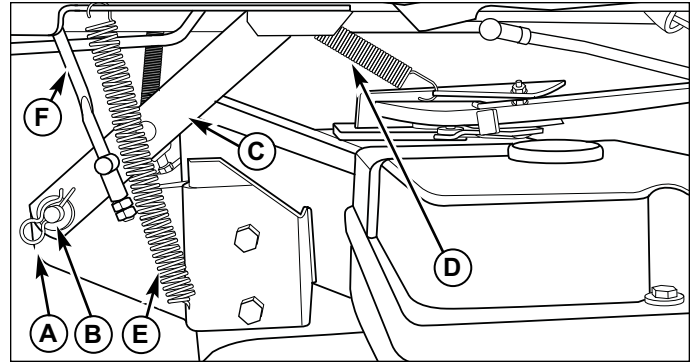
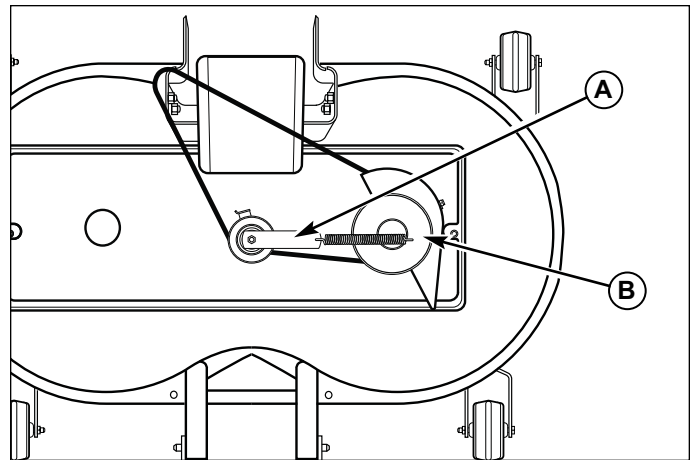
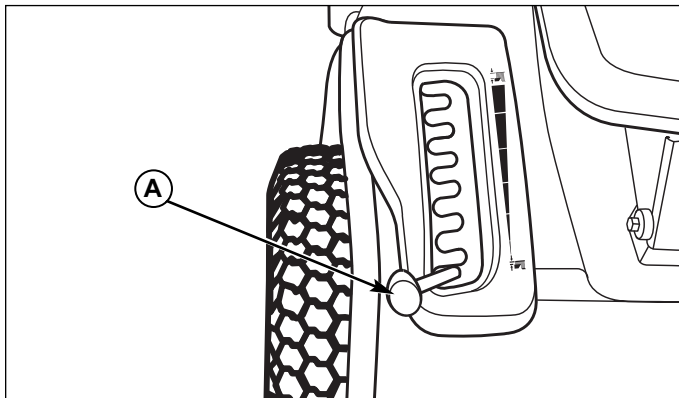

Figure 4. Mower Deck Removal and Installation (viewed from underneath right side of tractor)
Figure 5. Removing & Installing Belt
Figure 3. Mower Lift Lever (Lowered Position)
1. Remove the fuel cap (A, Figure 3).
2. Pull the transmission release (B, Figure 3) back approximately 2-3/8" (6 cm) to lock into released position.
2. Place mower in the lowest cutting position using the mower lift lever (A, Figure 3).
3. Place the mower lift lever (A) in the lowered position.
4. Disconnect the hair pins (A, Figure 4) from the trunions (B) on both sides of the mower deck. Remove trunions from mower deck lift arms (C). Re-install the hair pins to prevent loss.
5. Remove upper spring (D) and the two lower springs (E) on each side of the mower deck.
6. Release belt tension with idler arm (A). Remove belt from PTO pulley (B, Figure 5).
6. Attach upper spring (D, Figure 4) and the two lower side springs (E) on each side of mower deck.
7. Connect the trunions (B) to mower deck lift arms (C). Secure with hair pins (A).
8. Move idler arm (A, Figure 5) to increase belt tension.